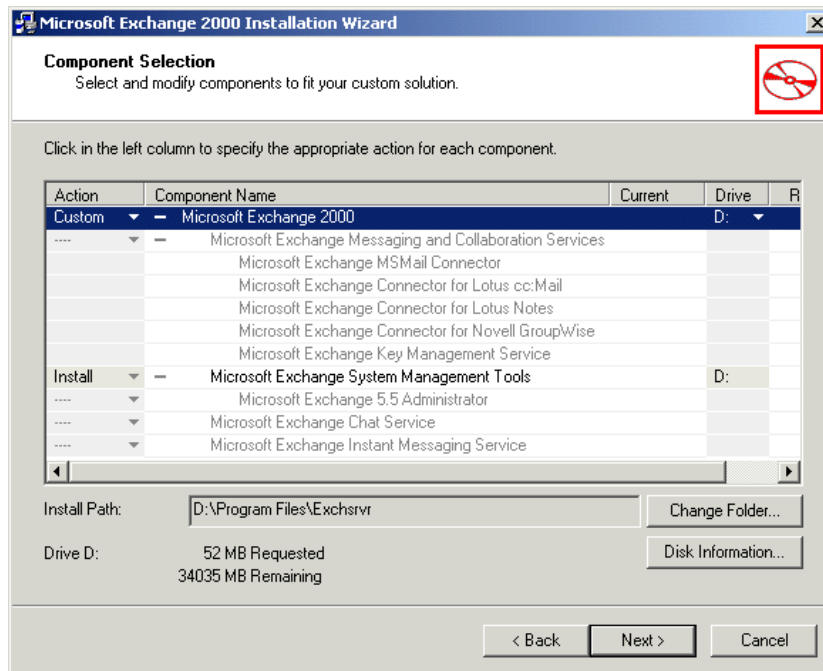

Figure 4-6 Installing Outlook 2000
2. Click **Add** in the dialog box. You will see a window similar to Figure 4-6 on page 44.